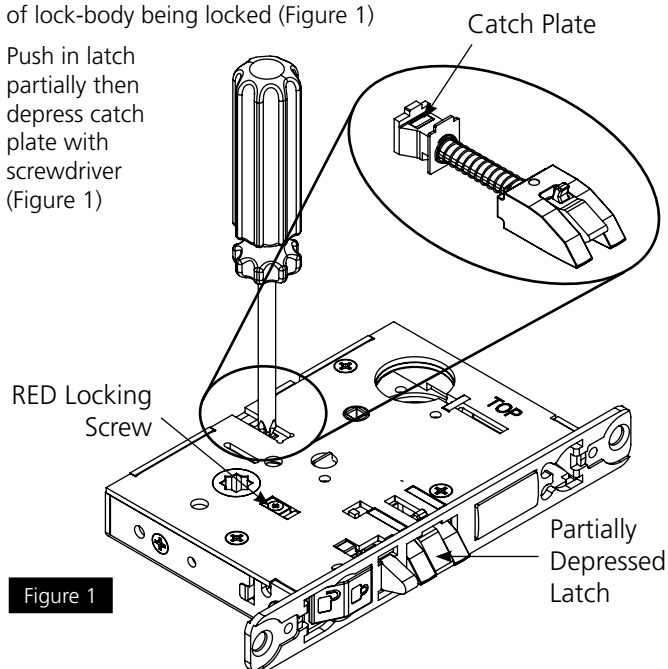

Figure 1
1. Move the Red locking screw to side of lock-body being locked (Figure 1)
2. Push in latch partially then depress catch plate with screwdriver (Figure 1)